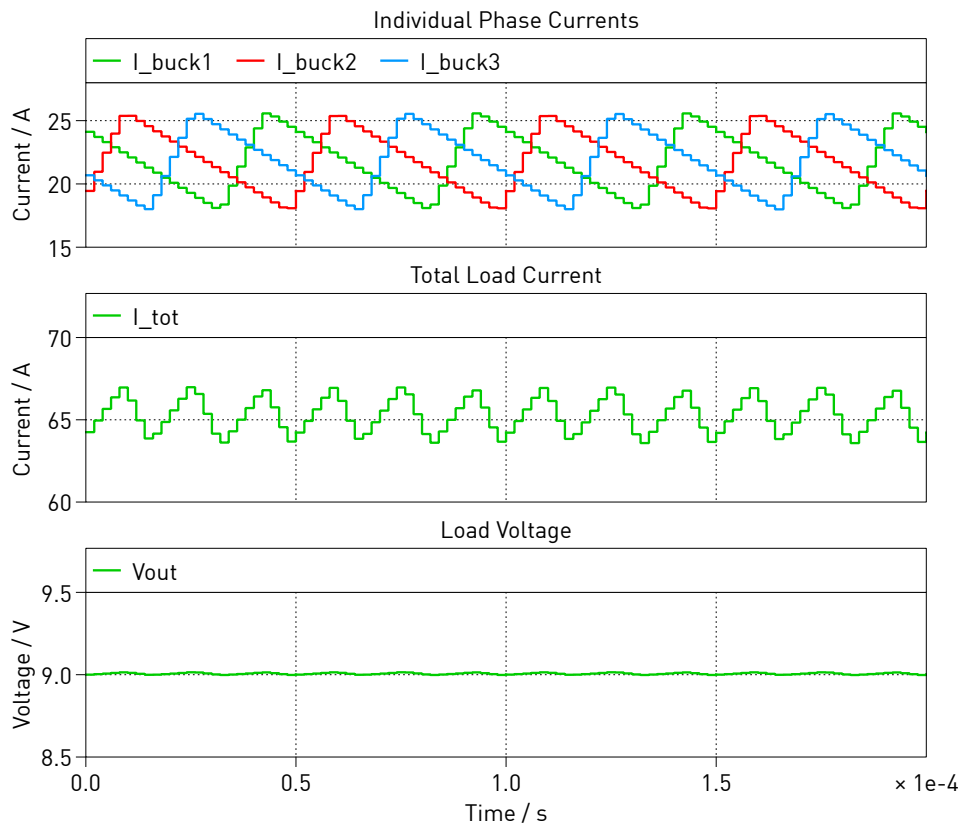

Figure 4: Simulation results with all three phases active
- After building each subsystem inside the model onto the corresponding Box, the real-time simulation waveforms should look like in Fig. 4. In the default setup of the demo, both extra load resistor branches are turned on. This gives the minimum load resistance, therefore the highest load current. In this scenario all three buck converter branches are controlled to be active, balanced and interleaved with a 120-degree phase shift among them.